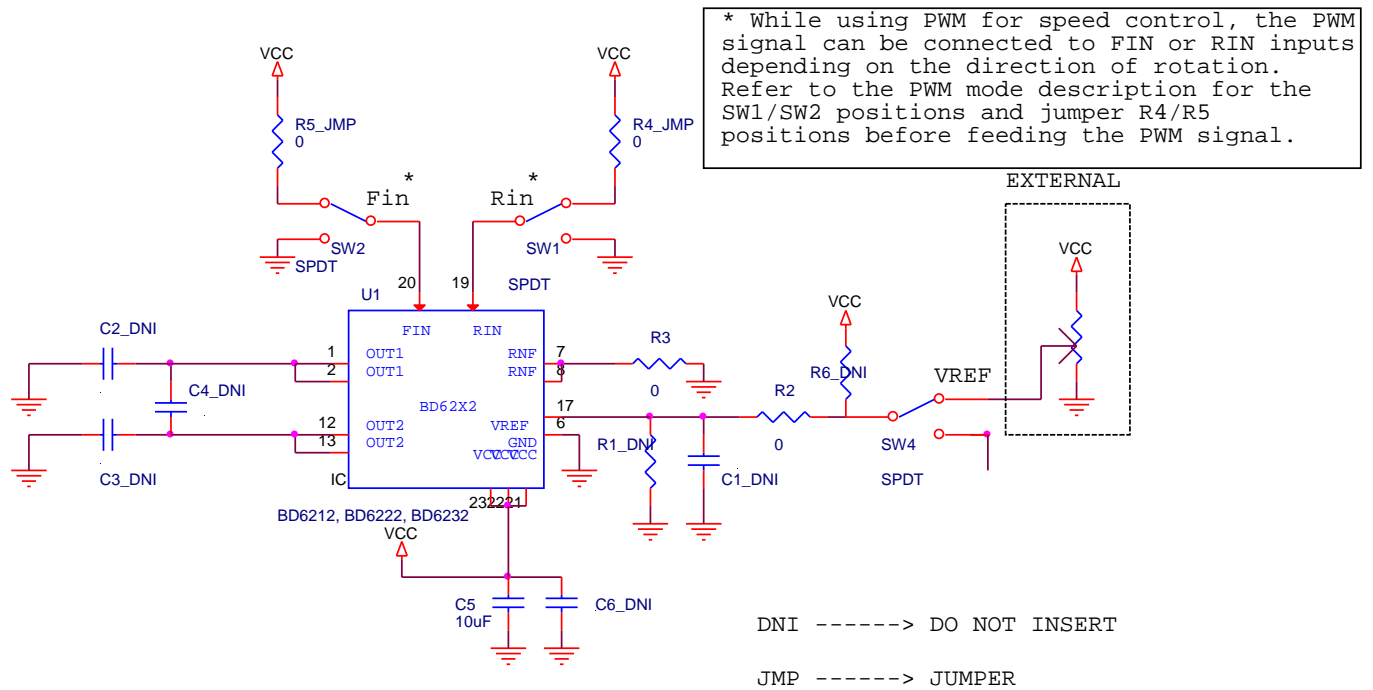

Figure 1
- b) The speed of the motor can be controlled by varying the duty cycle of the input PWM signal. OUT1 pin is high and OUT2 pin toggles between low and high impedance states. The motor which is connected between OUT1 and OUT2 rotates in the forward (clockwise) direction. A path for the recovery current from the motor is established by the 10μF bypass capacitor connected between VCC and GND as shown in Figure 1.
- b) The speed of the motor can be controlled by varying the duty cycle of the input PWM signal. OUT2 pin is high and OUT1 pin toggles between low and high impedance states. The motor which is connected between OUT1 and OUT2 rotates in the reverse (anti-clockwise) direction. A path for the recovery current from the motor is established by the 10μF bypass capacitor connected between VCC and GND as shown in Figure 1.
- d) The switching on duty is limited by the range of VREF pin voltage. The PWM output carrier frequency in this mode is 25kHz (nominal). A path for the recovery current from the motor is established by the 10μF bypass capacitor connected between VCC and ground as shown in Figure 1.